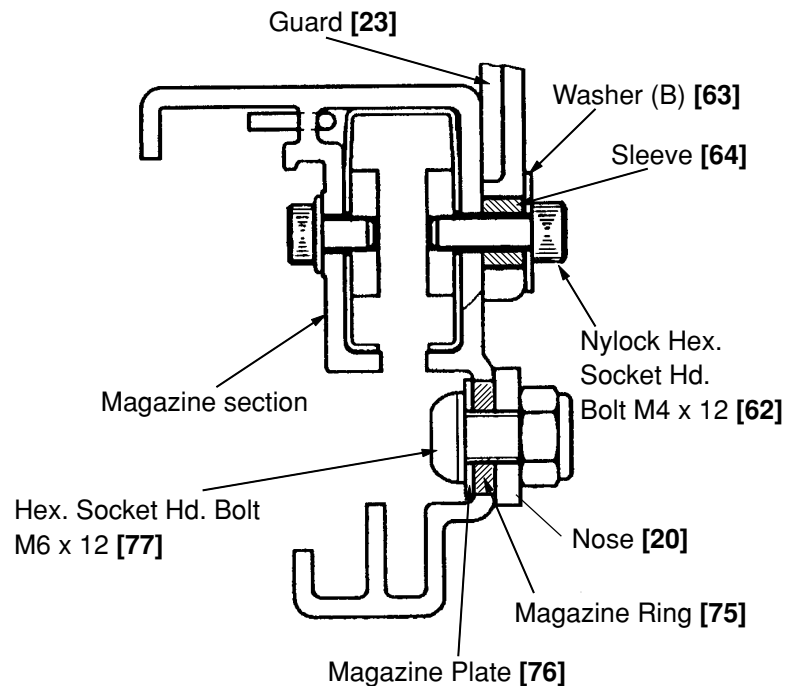

Fig.31
- To mount the magazine section to the Nose [20], insert the Magazine Ring [75] into the Magazine [74] and sandwich it between the Nose [20] and the Magazine Plate [76] then secure them with the Hex. Socket Hd. Bolt M6 x 12 [77] (Fig. 31).
- Insert the Sleeve [64] into the hole of the Guard [23] and put Washer (B) [63] on the Sleeve [64] then secure them with the Nylock Hex. Socket Hd. Bolt M4 x 12 [62] (Fig. 31).